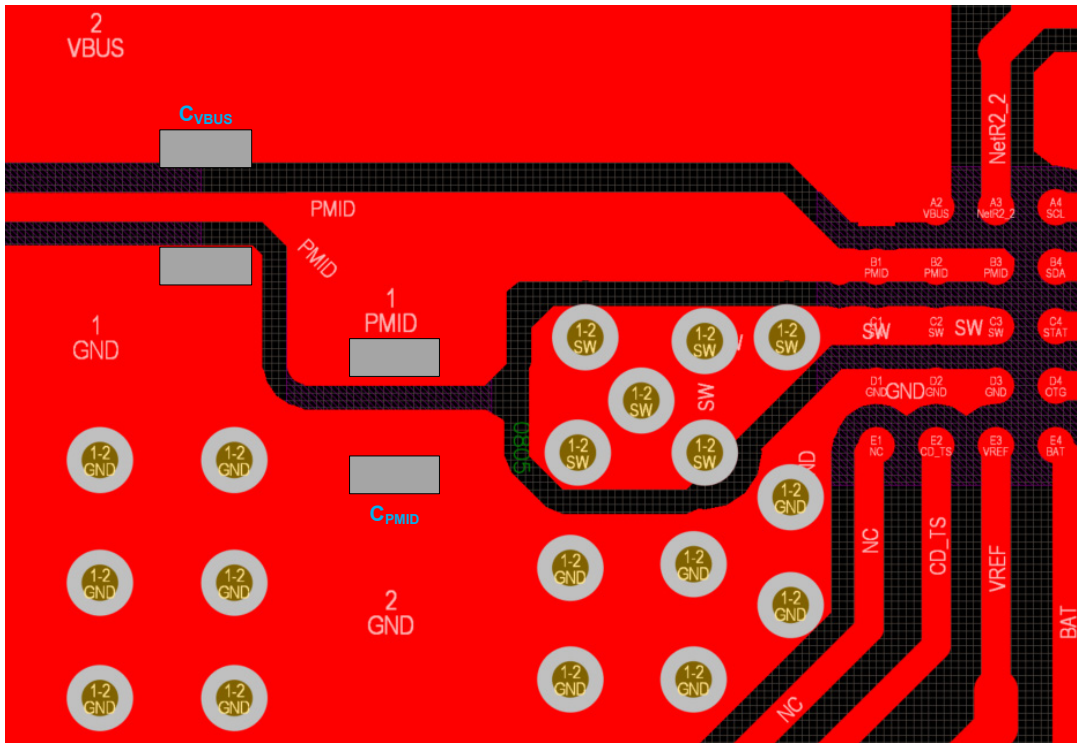

Figure 17. Layout Example
5. The 4.7µF PMID capacitor should be placed as close as possible to the PMID pin and PGND pin to minimize the area of the high-frequency current circuit. Add 1µF input capacitor should be placed as close as possible to the VBUS pin and PGND pin to minimize the area of the high-frequency current circuit (see Figure 17).